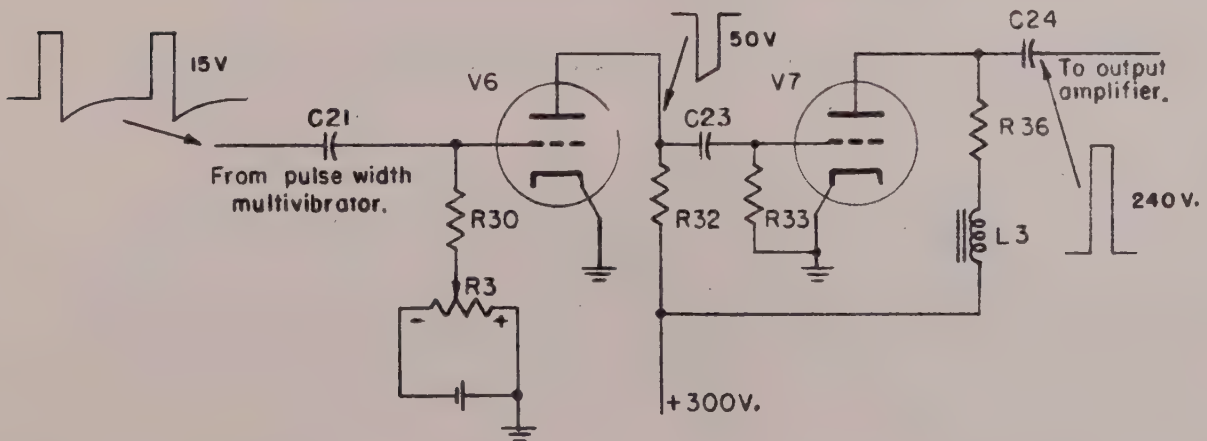

Fig. 4. Functional Schematic, Limiter/Driver Circuit.
a. Shaping and amplification of the pulse delivered by the pulse-width multivibrator is performed by tubes V6 and V7. A functional schematic of these circuits is shown in figure 4. For simplification, tubes are shown as triodes. During the quiescent period, tube V6 is biased beyond cutoff, thus its plate potential is equal to the plate supply (300V). Tube V7 is conducting and its plate potential is very low.